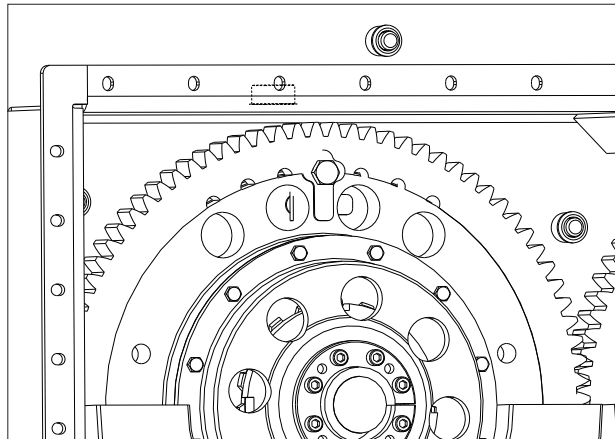

Figure 9.63 - Key Bolt Lock Washer
3. Pry up tab on key-bolt lock washer, Ref: Figure 9.63.